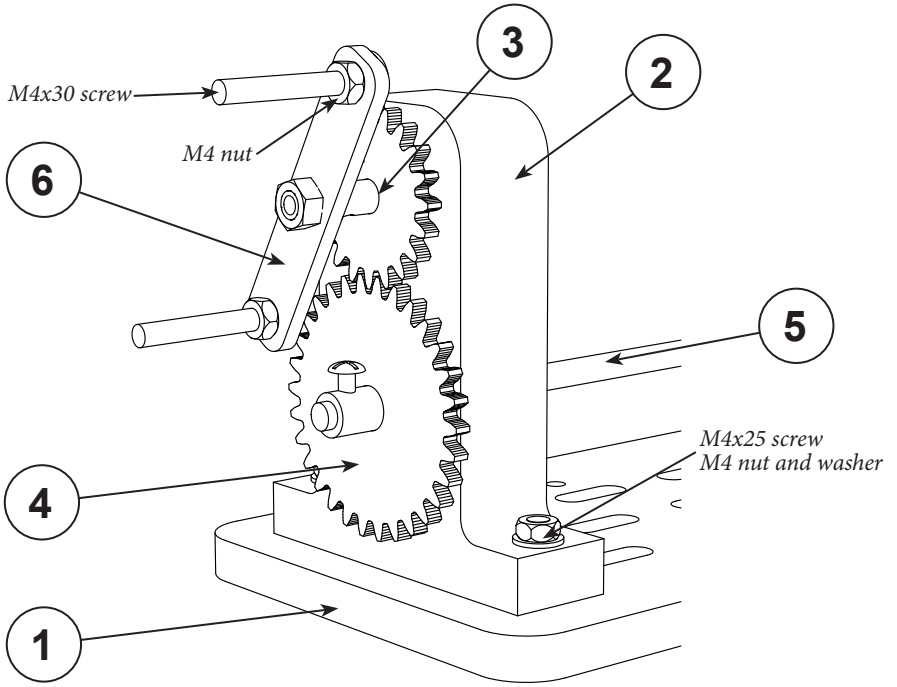

Figure 1.
3. Set cheeks (2) on the baseboard (1) at a distance required. Fasten them using M4x25 countersunk screws and M4 nuts and washers (**fig. 1**).
4. Insert transmission axle (5) into lower ball bearing of the cheeks (2) (**fig. 1**).